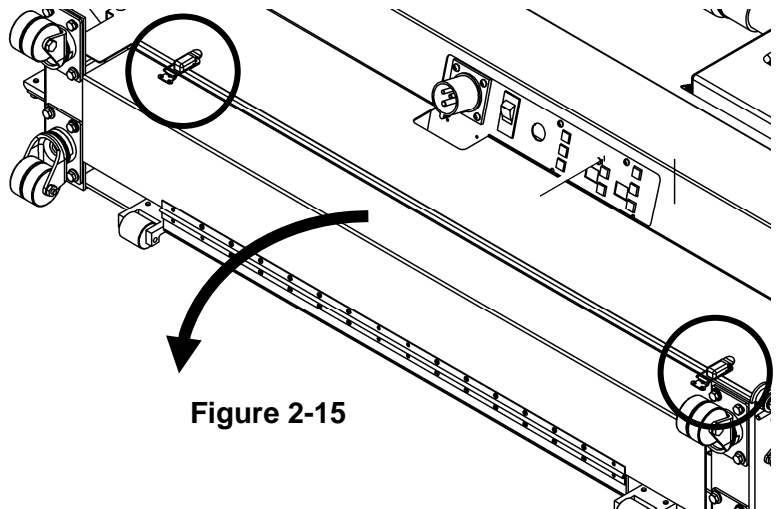

Figure 2-15
1. Unhinge the clasps holding the oil tank cover to the hood, as shown in figure 2-15 and open the oil tank compartment door to access the oil tank.